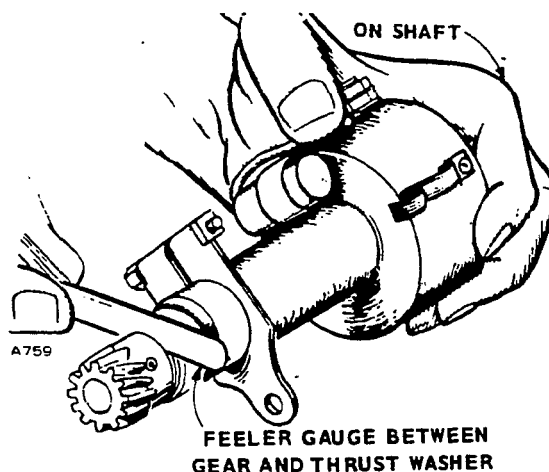

FIGURE 51. DISTRIBUTOR SHAFT END PLAY CHECK
3. Distributor shaft end play should be .003 inch to .010 inch (Figure 51). If end play is less, tap lower end of distributor shaft lightly with a soft hammer. If too great, check thrust washer installation or reinstall the gear.